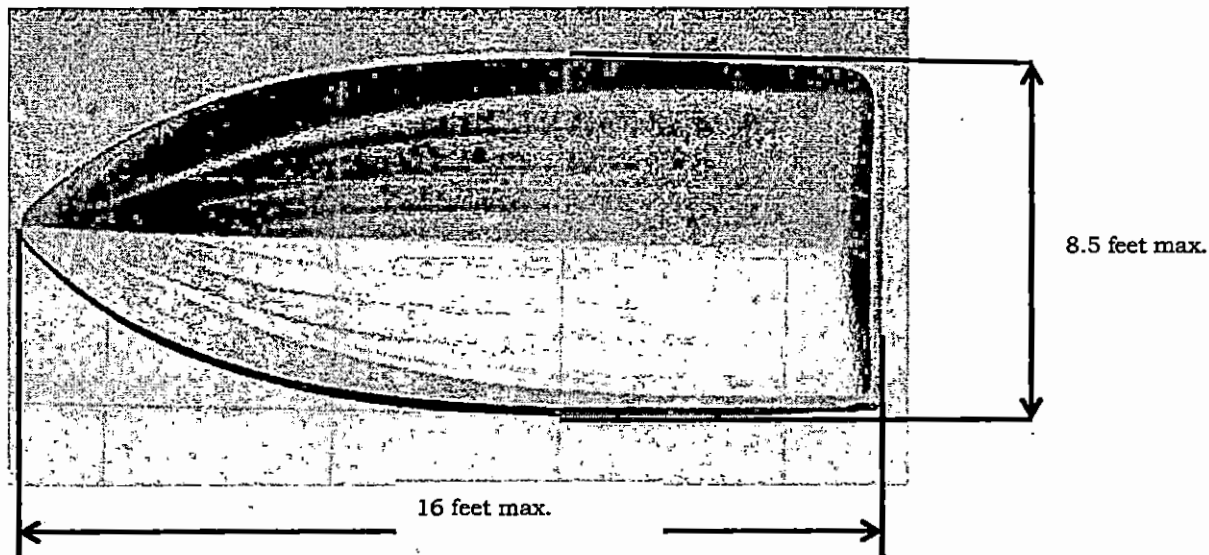

Fig. 1
6. Boat size cannot exceed sixteen (16) feet in length and eight $\frac{1}{2}$ (8.5) feet in beam. Outside measurements apply. Please refer to Fig. 1 for illustration of relevant dimension limits